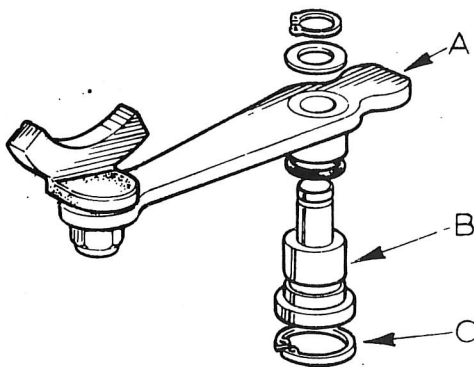

Fig. 28. REVERSE SELECTOR ASSEMBLY
19. Remove the circlip and washer retaining the Reverse selector lever (A, Fig.28) to its pivot (B, Fig.28). From beneath the exterior of casing, release the circlip (C, Fig. 28), and withdraw pivot complete with 'O' ring.